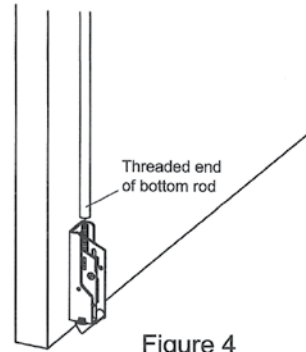

Figure 4
2. Screw the threaded end of bottom rod into latch assembly. (See Figure 4.)